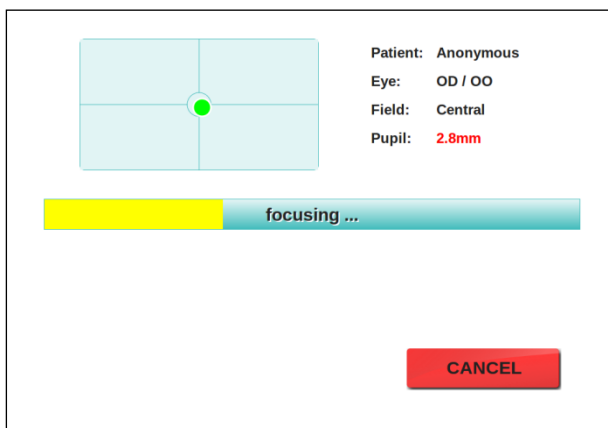

Figure 12 - Auto-focus in progress
- Perform auto-focus (see Figure 12);